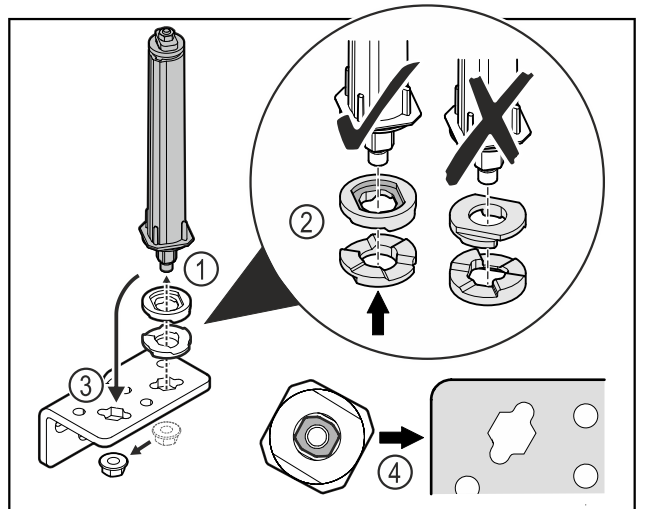

Fig. 30
- ▶ Loosen the nut and remove the door closing system Fig. 30 (1).
- ▶ Ensure that the height adjustment discs are correctly aligned Fig. 30 (2).
- ▶ Move the door closing system to the hinge angle and secure it with the nut Fig. 30 (3).
- ▶ When inserting, ensure that the door closing system is correctly aligned Fig. 30 (4).